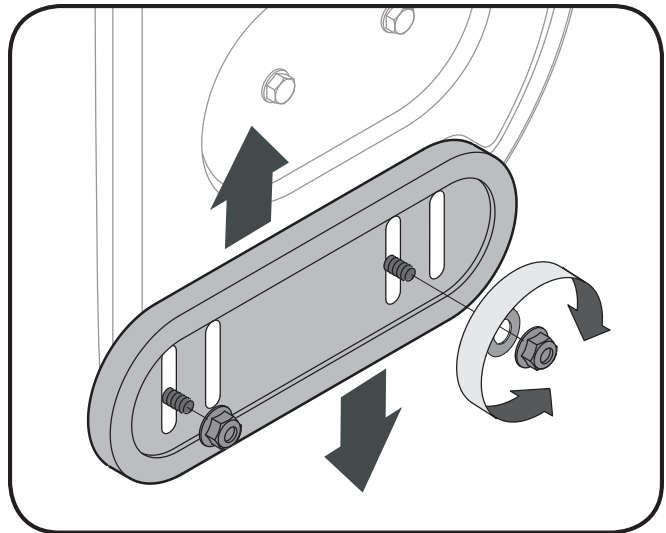
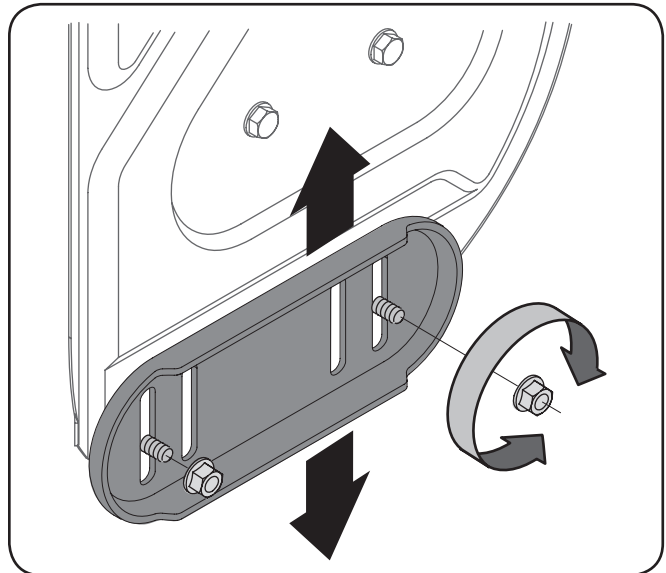

Fig. 3-13
Fig. 3-14
1. Loosen the four hex nuts (two on each side) and carriage bolts. Move skid shoes to desired position. See Fig. 3-13 or Fig. 3-14.